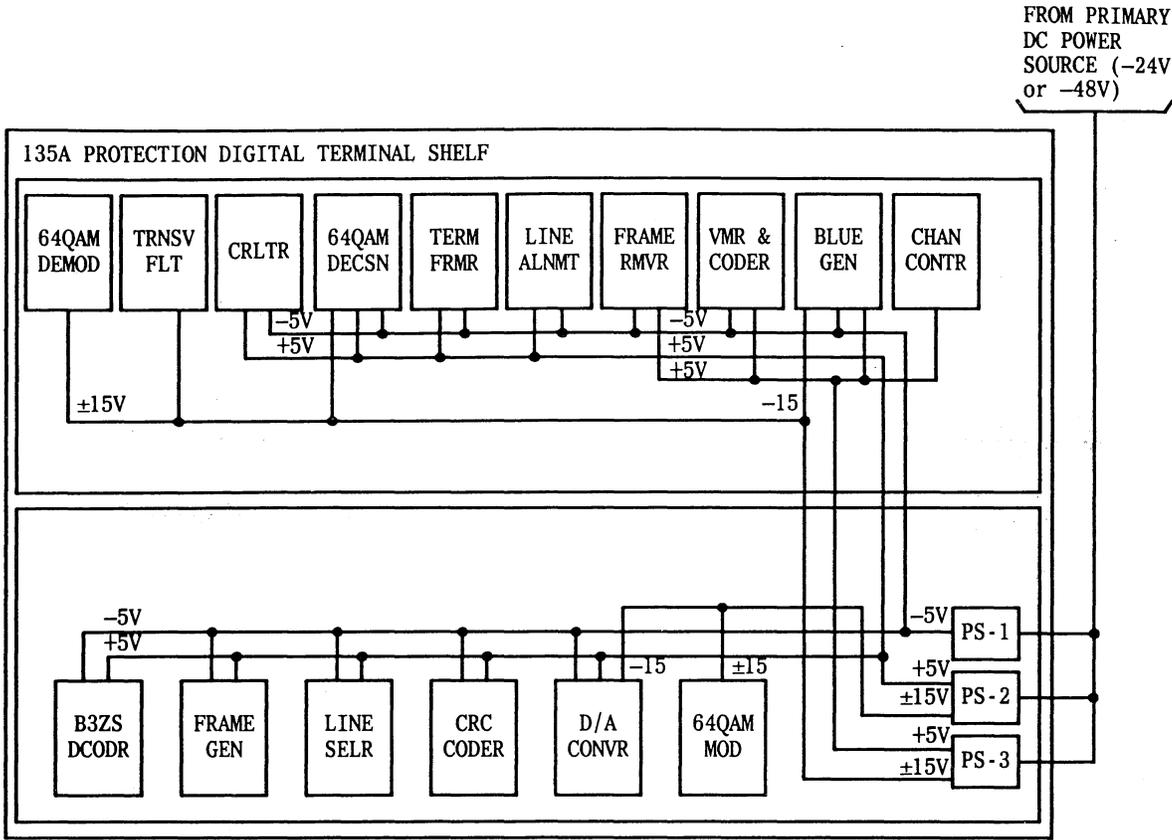

Fig. 37—135A Protection Digital Terminal Shelf Power Distribution
- Figure 37—135A Protection Digital Terminal Shelf Power Distribution